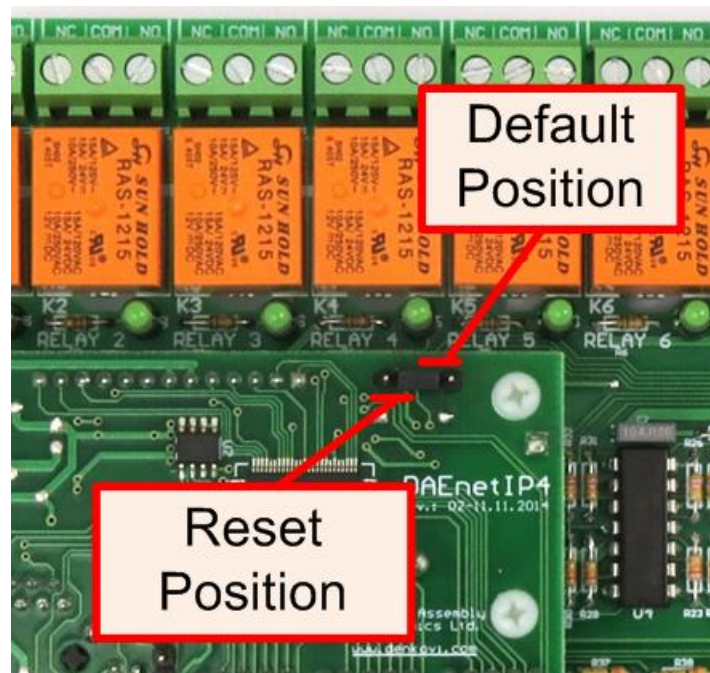

Figure 24. System port JP5
- Move the jumper to **Reset Position** (Figure 24), wait 10 seconds and then get it back to it's old position. This option is most suitable when the controller is embedded in larger system and the JP5 jumper must be extended with buttons or switches.